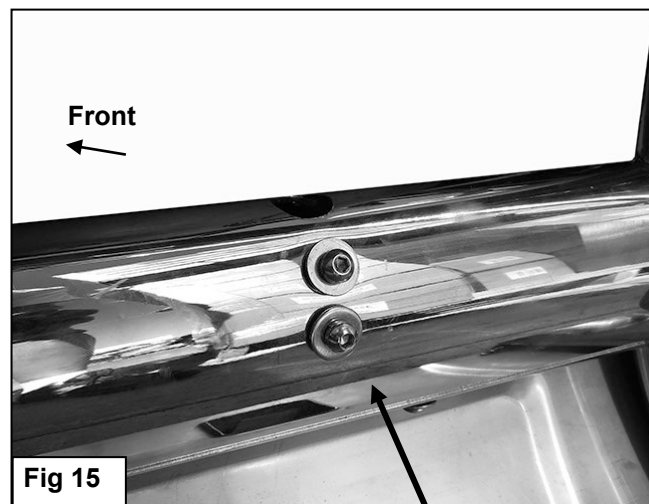

Fig 15
- a) Insert the included (4) 6mm x 20mm Button Head Bolts, (4) 6mm Lock Washers and (4) 6mm Flat Washers into the threaded inserts in the back of the crossbar to plug the holes, (**Figure 15**). Tighten hardware. Installation is complete.